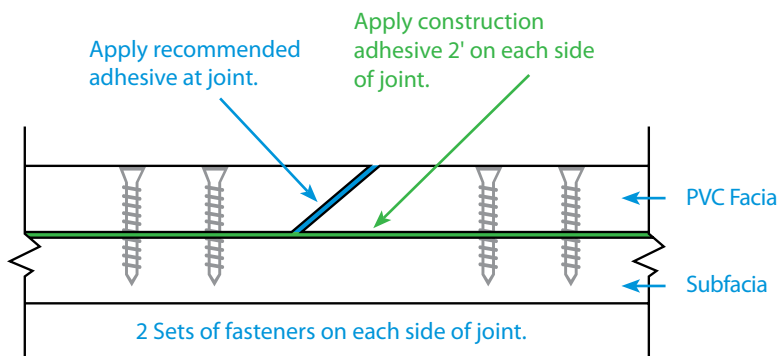

Figure 3: Scarf Joint
- "Glue & screw" joints together (See Figures 3 and 4 below)